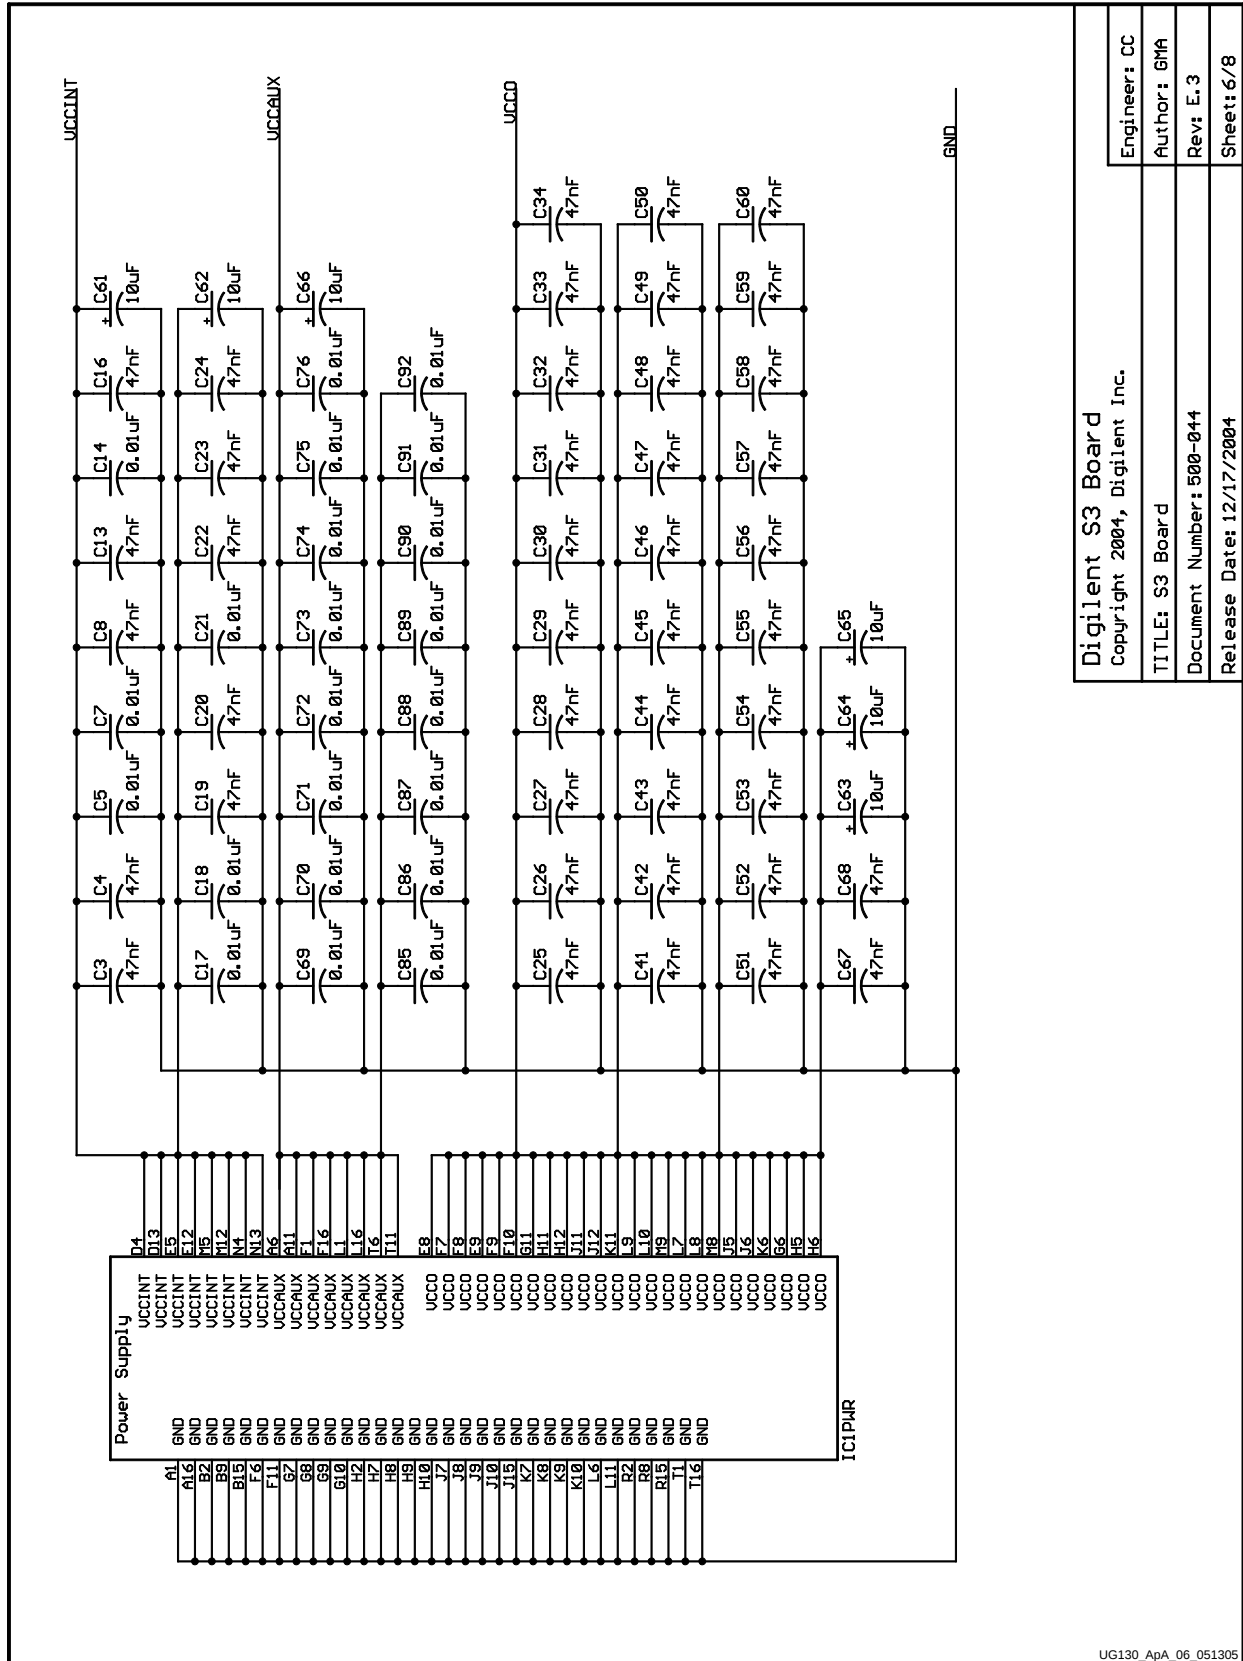

Figure A-6: Power Decoupling Capacitors
- Figure A-6, “Power Decoupling Capacitors”